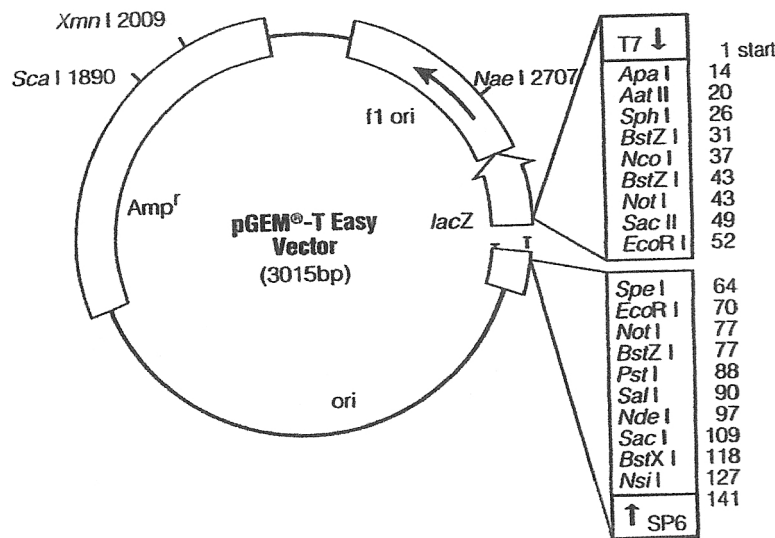

Figure 1. Map of Cloning vector pGEM T-Easy (bacterial plasmid DNA)
Most cloning vectors are small, circular DNA molecules (“plasmids”) originally isolated from bacteria (figure 1). Plasmids are essentially small (2000-10,000 bp), circular chromosomes. They contain all the necessary signals for binding the proteins involved in DNA replication and RNA transcription, which are found in the host cell along with the required nucleotides and coenzymes.
Besides the molecular signals necessary for DNA replication, RNA transcription and protein translation, our plasmid DNA vector contains two unique genes, *Amp^r* and *lacZ* (figure 1). Both produce proteins that will aid the identification of bacterial colonies that contain our PCR product. The *Amp^r* gene encodes a protein that confers resistance to the antibiotic ampicillin. Including ampicillin in the LB-agar plate media will prevent cells that did not take up a copy of the plasmid from surviving. Antibiotic resistance thus provides one means of *selecting* for colonies that have taken up the plasmid.
4. Refer to figure 1. Use your textbook or other sources (library resources, internet, etc.) to define the features found on our cloning vector (4 pt).